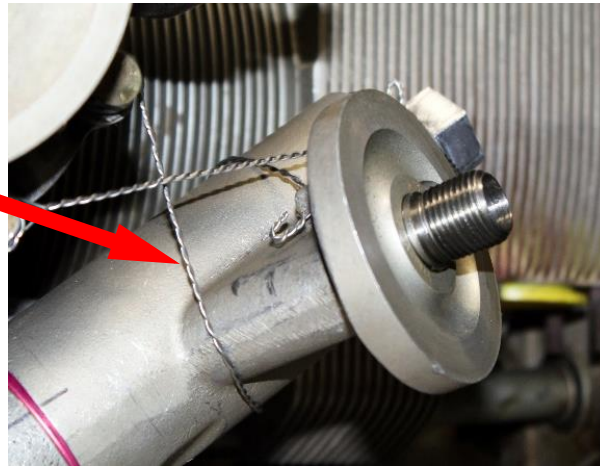

Figure 4
- d. If there is no safety-wire securing the body itself against rotation, install safety-wire such that the wire will prevent the body from rotating in a counter-clockwise (loosening) direction, see Figure 4. Secure the safety-wire to a suitable location **on the engine**. Do not secure any safety-wire from the adapter to the airframe.